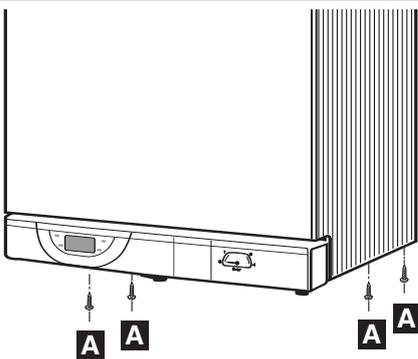

Fig.15
- Tighten the 4 screws located at the bottom as shown in Fig. 15.